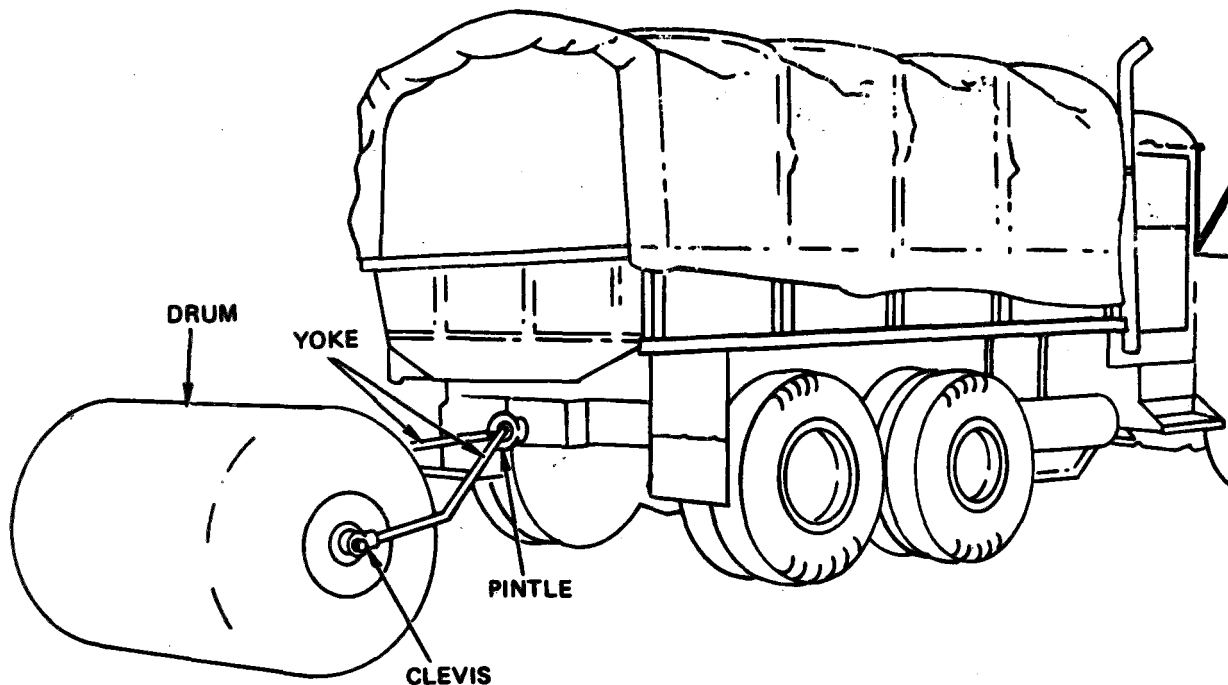

Figure 4-3 Drum attached to cargo truck for towing
- (1) Prepare engine for operation in accordance with instructions in TM 5-2805-257-14 on Model WPSS100 systems and in accordance with TM 5-4320-309-14 for Model 9095-91 systems.
- (2) Prepare pump for operation in accordance with instructions in TM 5-2805-257-14 On Model WPSS100 systems and in accordance with TM 5-4320-309-14 for Model 9095-91 systems.
**4-2.1 MOVEMENT OF FILLED DRUM BY CARGO TRUCK.** A filled drum maybe moved short distances, at a speed not to exceed 10 mph (16km/hr), by towing with the towing and lifting yoke as shown in figure 4-3.